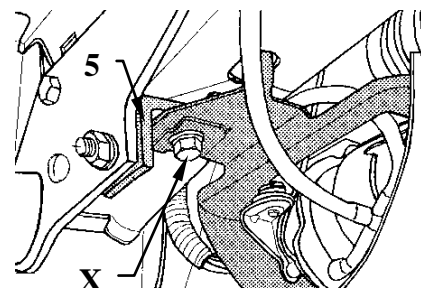

Fig. 2
For models with level adjustment: Remove bolt X shown in figure 2, place angle bar (pos. 5) between just removed plate and the chassis. Fix loosely using bolt M10x35mm.